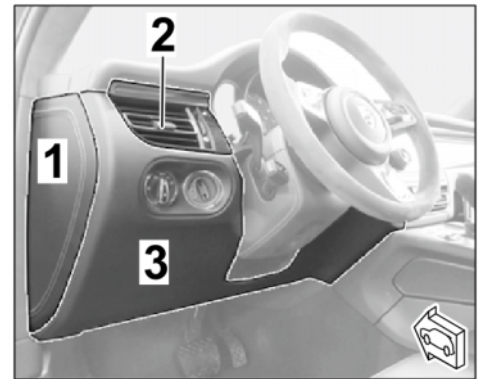

Figure 3
- 1.4.1 Remove dashboard trim panel (at the left). ⇒ *Figure 3, ⇒ Workshop Manual '701619 Removing and installing dashboard trim panel'*